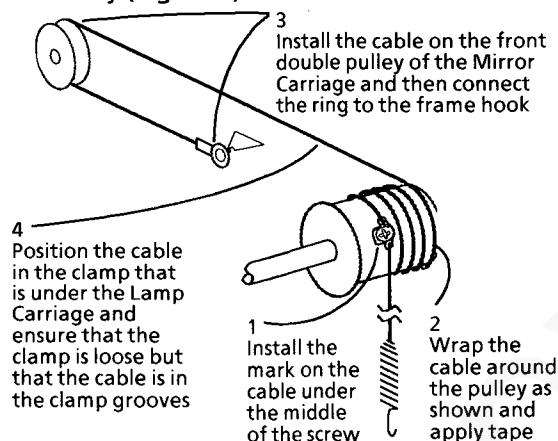

Figure 5. Installing the Rear Scan Cable on the Rear Drive Pulley
7. Install the Scan Cable on the Rear Drive Pulley (Figure 5).